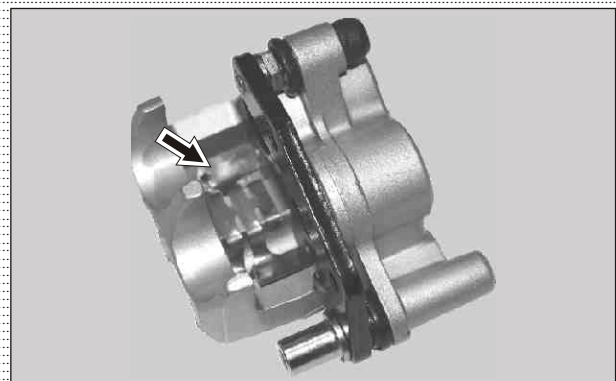

Fig. 6.18
- Remove spring pad from the caliper housing. (Fig. 6.18)